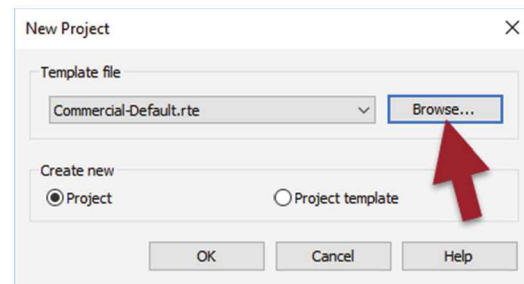

FIGURE 2-1.1 New Project
- b. Click **Browse...** (Figure 2-1.1)
- e. With the template file just selected and *Create new* “Project” selected, click **OK** (Figure 2-1.1).